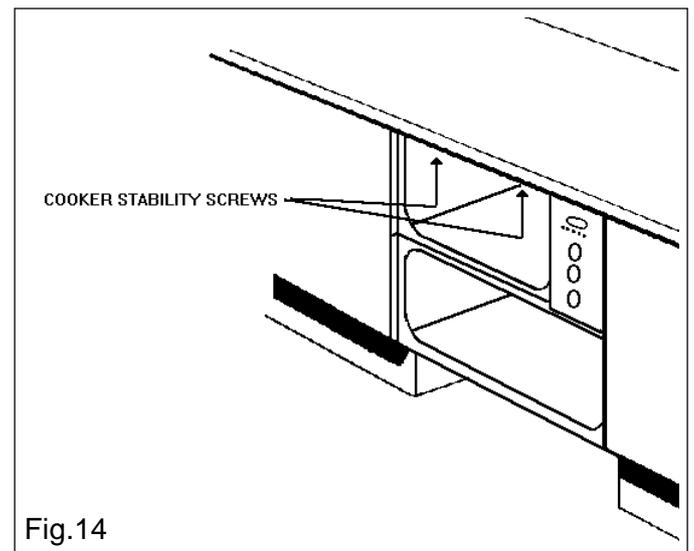

Fig.14
- When the appliance is fully housed, screw the stability screws (supplied with the appliance) into the underside of the worksurface in the positions indicated (see Fig. 14), taking care not to distort the trim. It is advisable to turn each screw alternately to avoid damaging the trim.